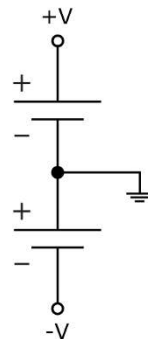

Figure 14-6: Some circuits require positive and negative power supplies.
Some circuits (for instance, some op-amp circuits, which are discussed in Chapter 11) require both positive and negative DC power supplies. You'll often see the positive supply represented by an open circle labeled +V and the negative supply represented by an open circle labeled -V. If the voltages are not specified, they may be +5 VDC and -5 VDC. Figure 14-6 shows how these power supply connection points are really implemented.
- **Single ground symbol:** The schematic shows all the ground connections connected to a single point. It doesn't often show the power source or sources (for instance, the battery), but you should assume that ground connects to the positive or negative DC power sources (refer to Figure 14-6).